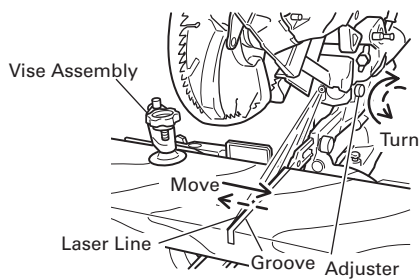

Fig. 22
- (2) Then, turn the adjuster and shift the laser line. (If you turn the adjuster clockwise, the laser line will shift to the right and if you turn it counterclockwise, the laser line will shift to the left.) When you work with the ink line aligned with the left side of the saw blade, align the laser line with the left end of the groove. (Fig. 22) When you align it with the right side of the saw blade, align the laser line with the right side of the groove.